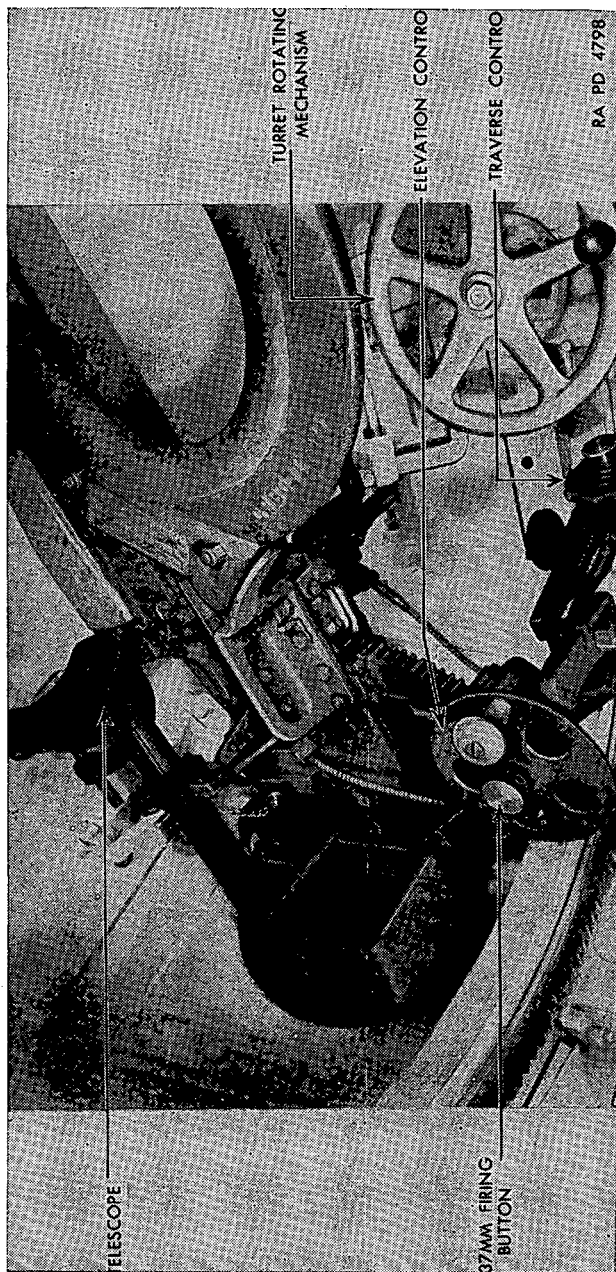

Figure 15.—37-mm gun mount, left side.
a. Combination gun mount M22 (figs. 15 and 16).—This gun mount is located in the turret and mounts a 37-mm and a cal. .30 machine gun. These are mounted together and move as one unit. The 37-mm gun is fired by depressing the plunger located in the hub of the elevating handwheel. Elevation up to 20° may be obtained by turning the elevating handwheel (fig. 15) toward the operator; a maximum of 10° of depression is obtained when the handwheel is turned in the opposite direction. A hand-operated traverse control handle on the right side of the gun provides 10° of traverse to the right or left. Clockwise rotation of the control handle traverses the gun to the right; anticlockwise to the left. A full 360° of traverse may be had by rotating the turret. The machine gun is fired by depressing the plunger in the center of the traversing handwheel. Both the 37-mm gun and the machine gun are operated by the turret gunner.
34. *Sighting equipment*.—A telescope sight is provided on the 37-mm combination gun mount (fig. 15). It is secured to the mount by a bracket and is equipped with a rubber face piece.